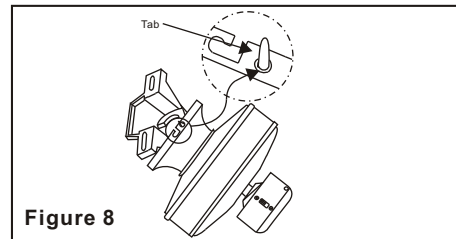

Figure 8
11. Hang the fan on the tab of the hanger bracket. Be certain that the canopy is fully locked into tab as shown in Fig. 8. This will allow you to make the electrical connections.